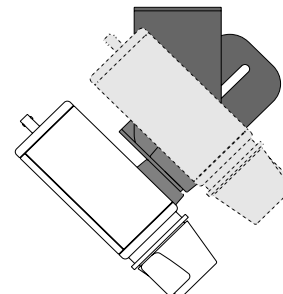

Figure 4
- The Axis 210, 210A, 211, 211A, 221, or 223M can be mounted on either side of the tilt part of the camera bracket (Figure 4).